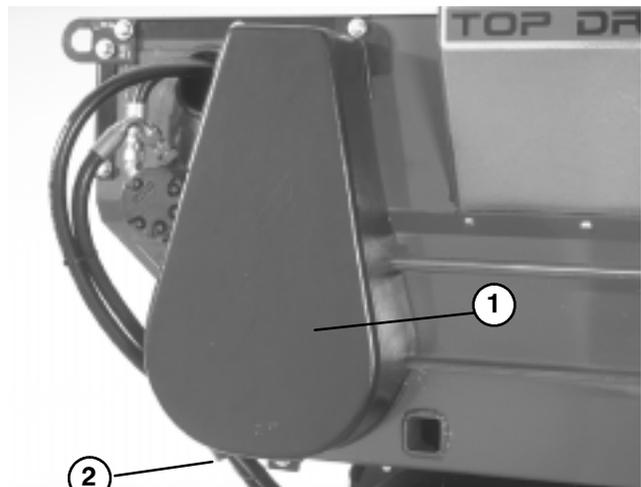

Figure 23
1. Remove chain cover, spacer and finger guard (Fig. 23).